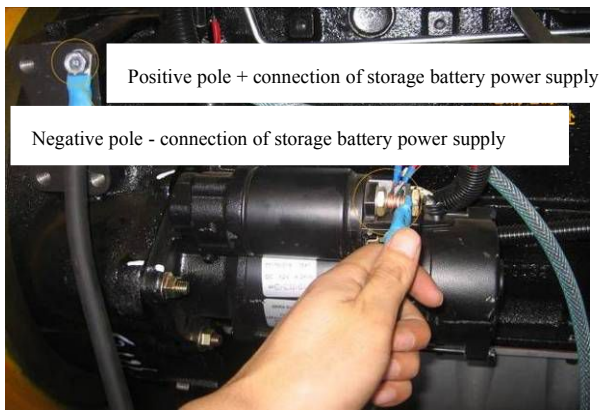
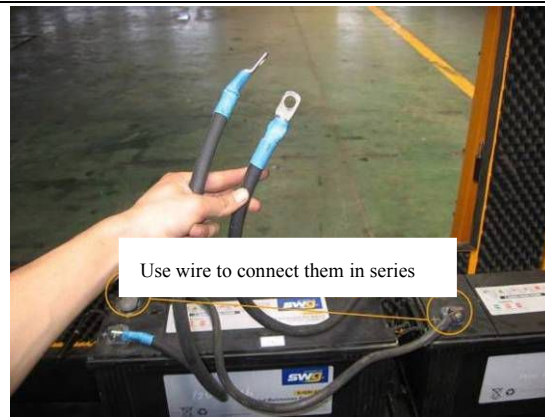

Fig.2-9
Fig.2-10
- With the standard battery connecting line, you can connect the anode and cathode of the battery with the terminals on the start motor correctly (as shown in Fig.2-9). Most units don't allow the cathode to connect to the housing directly. For the unit equipped with two batteries, connect them together before connecting them with the unit (as shown in Fig.2-10).